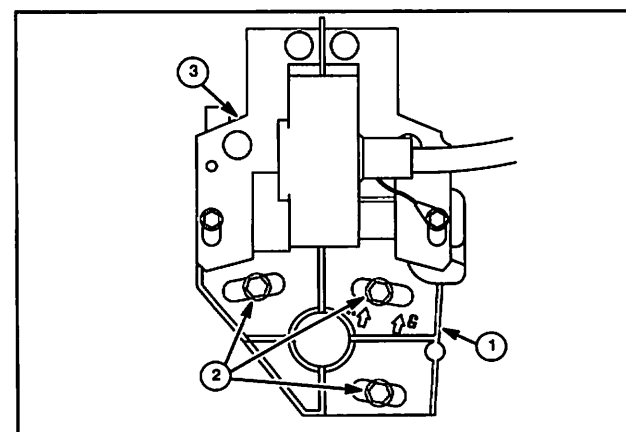

Fig. 17
Position adjustable ignition armature bracket (1) so mounting screws are centered (2) in ignition armature bracket slots (gasoline engines), Fig. 17. Ignition armature with Magnetron® module assembly.